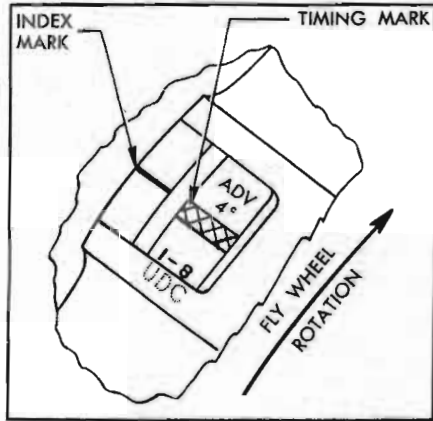

Figure 10-69—Ignition Timing Marks—Series 40-50
The timing mark stamped on flywheel is $\frac{1}{8}$ " wide, knurled, and painted yellow. The $\frac{1}{8}$ " width provides a tolerance of one degree when setting the timing. On Series 40-50, the timing mark is stamped "ADV 4°" and gives a timing setting 4° to 5° ahead of upper dead center. See figure 10-69. On Series 70, the timing mark is stamped "ADV 6°" and gives a timing setting 6° to 7° ahead of upper dead center.
stamped "U.D.C. 1-8", follows closely behind the ignition timing mark as the flywheel rotates. See figure 10-69. This mark must not be used for ignition timing.
3. Direct the beam of timing light into the timing hole so that the timing mark on flywheel and index mark on flywheel housing can be observed. See figure 10-69. The index mark must fall within the yellow band of the ignition timing mark for proper timing.